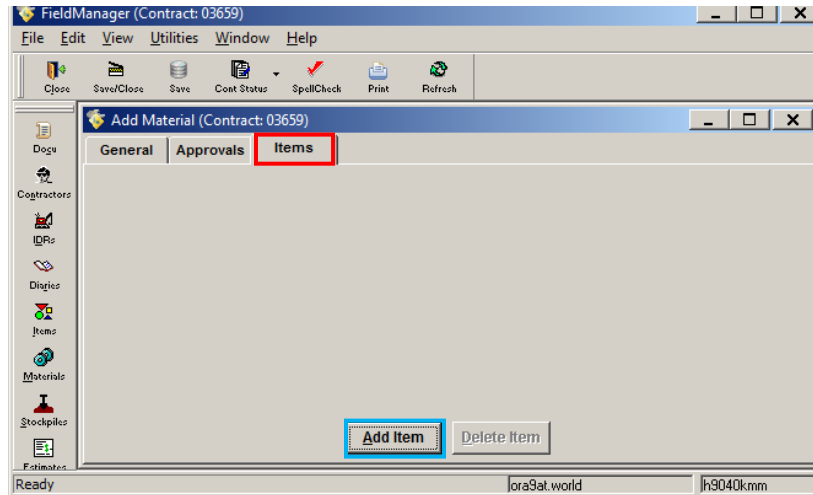
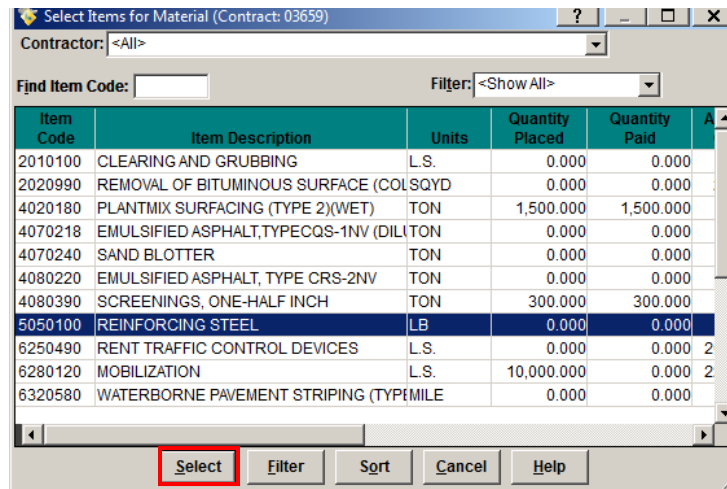
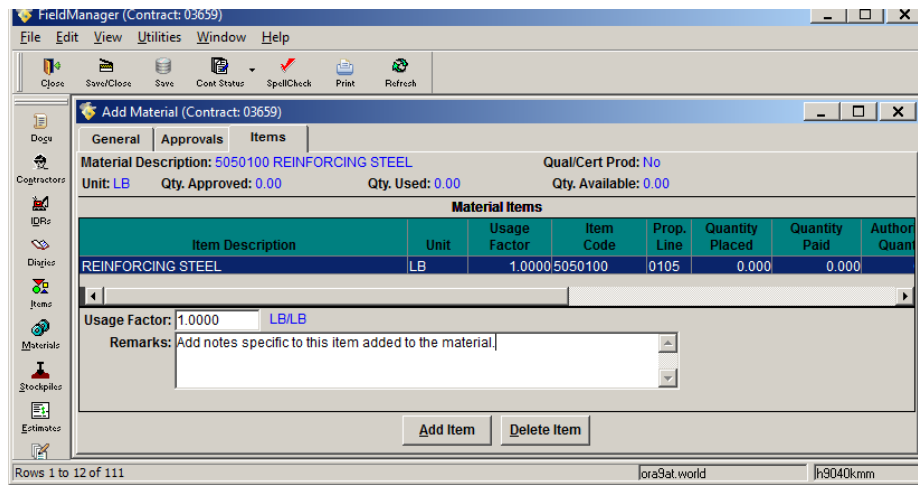

Figure 6-5. Add Material Tab Window – Items Tab
Figure 6-6. Select Items for Material Window
Figure 6-7. Add Materials – Items Tab Window
1. Click on the **Items** tab (Figure 6-5).
2. Click the **Add Item** button (See blue box in Figure 6-5). The Select Items for Material window opens (Figure 6-6).
3. Select the item from the list and click the **Select** button (Figure 6-6). The Add Material Items tab window opens (Figure 6-7).